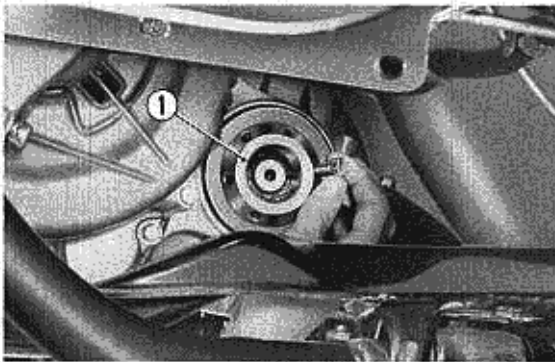

Fig. 7-4 ① Joint Flange
4. Remove the external circlip (22 mm) with a snap ring pliers and remove the joint flange by pulling it out with the bolt attached (Fig. 7-4).